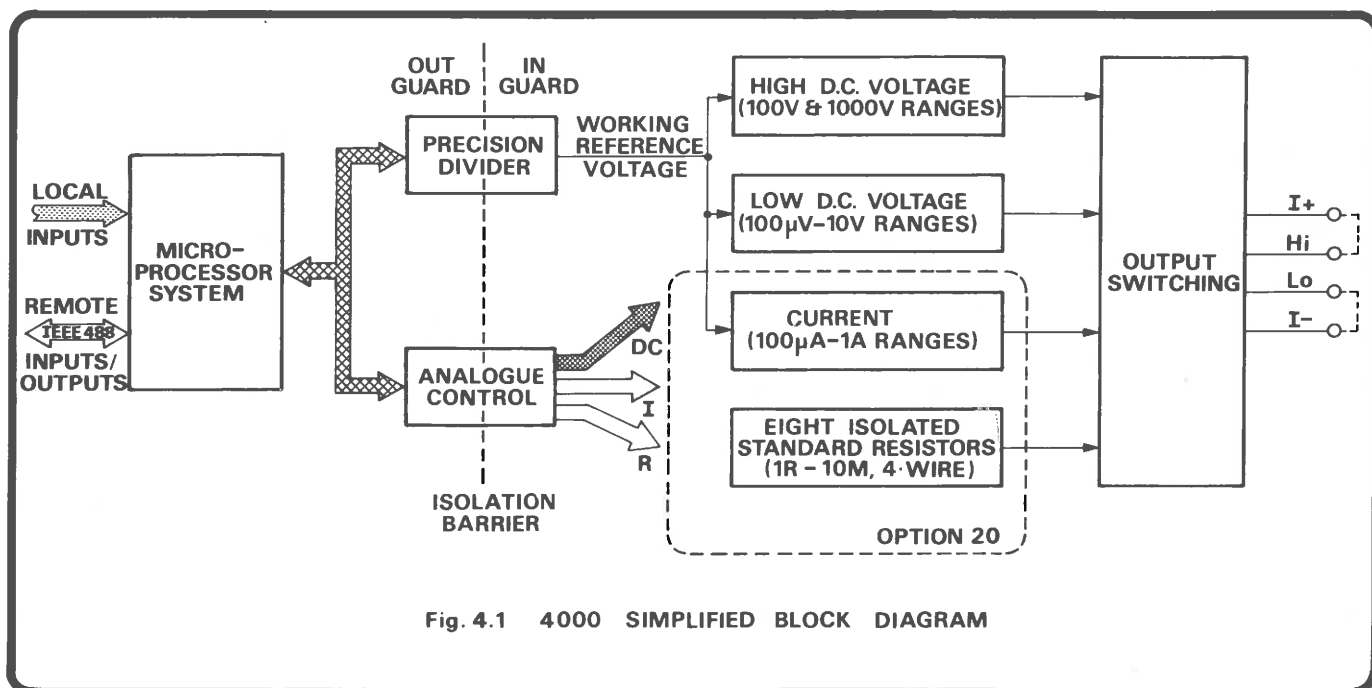

Fig. 4.1 4000 SIMPLIFIED BLOCK DIAGRAM
4.1 PRINCIPLES OF OPERATION (FIG. 4.1)
FIG. 4.1 illustrates the general circuit division and signal flow within the 4000.